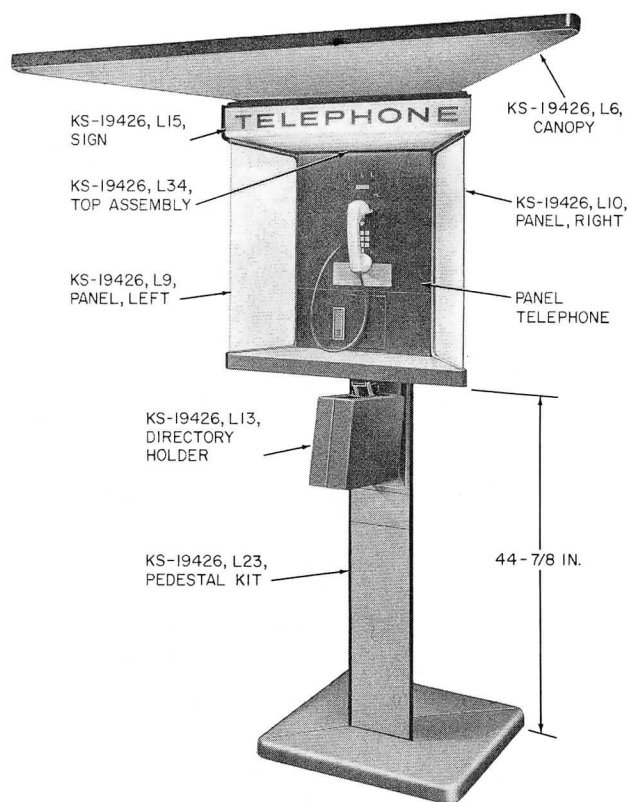

Fig. 1 — KS-19426 Mounting for Walk-up Outdoor Service
2.01 The KS-19426 mounting consists of a 90-degree wedge-shaped housing for post or wall mounting of coin telephones. See Fig. 1 through 4.
2.02 Post mountings (Fig. 1 and 2) may be installed singly or in multiple combinations as shown in Fig. 5.
2.04 A wedge-shaped canopy (Fig. 1) is available for installation above a single housing to protect the user from the weather. Canopies may also be used in multiple arrangements.
(a) List 13 directory holder (Fig. 1 and 2) for outdoor use.